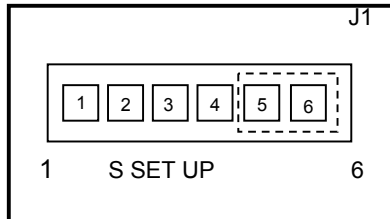

Figure 15
13. Position the jumper on pins 5 and 6 of the **J1 (S SET UP)** header. (Refer to Figure 15).